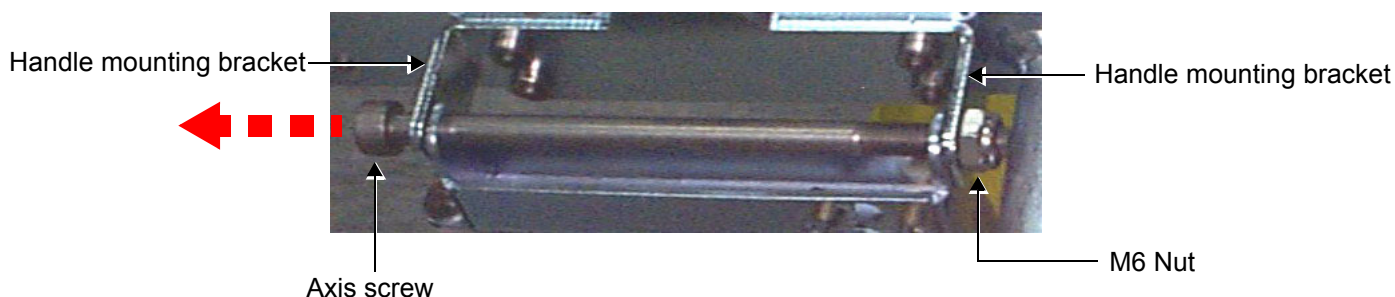

Figure 8-89 Removing the Handle from the Handle Mounting Brackets
11.) Loosen and remove the M6 nut from the handle assembly axis screw - see Figure 8-89 below.
12.) Holding the Up/Down/Swivel handle in one hand, extract the axis screw from the handle assembly (pull in the direction shown in Figure 8-89, above) and remove the defective Up/Down/Swivel handle from the handle mounting brackets (fastened to the chassis).
- 1.) Place the new Up/Down/Swivel handle into the correct position on the handle mounting brackets (fastened to the machine chassis) - refer to Figure 8-89 on page 8-101.
- 2.) Return the M6 Axis screw (previously removed) passing the end through the screw hole in the first handle mounting bracket, through the two holes in the handle, then through the screw hole in the second bracket - refer to Figure 8-89 on page 8-101.
- 3.) Return the M6 nut (previously removed) to the handle assembly axis screw. Tighten the nut fully to secure the handle assembly to the handle mounting brackets - refer to Figure 8-89 on page 8-101.